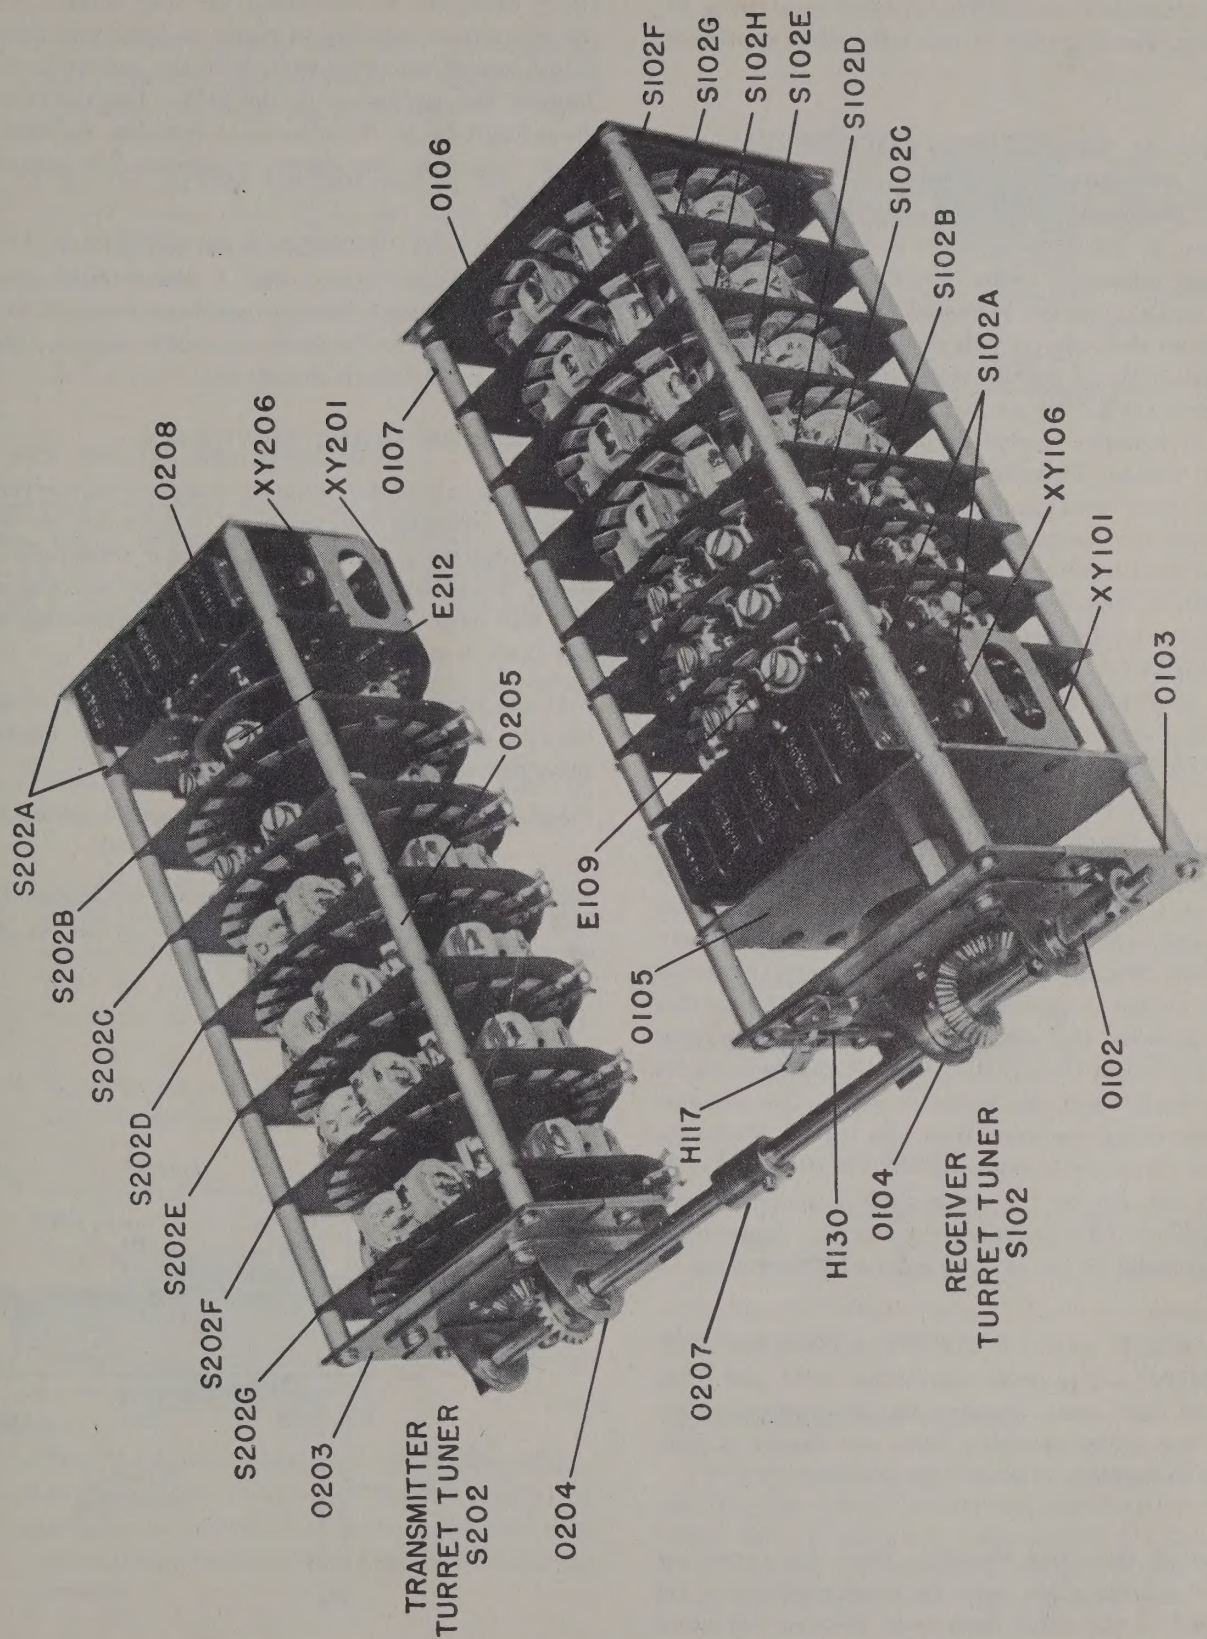

Figure 6-10. Receiver and Transmitter Turret Tuners
(See figures 6-10.)
d. TURRET TUNER WAFER SWITCH REPLACEMENT.—To replace a wafer switch, the turret tuner must be completely disconnected from the chassis per paragraph c above. Remove the three screws on each end of the tuner holding the three aluminum spacing rods (O107 or O205) and removable plate (O106). (See figure 6-10.) All wafer sections must be removed at the end away from the detent. Use care in pulling the wafer from the switch shaft. To place new wafer on switch, place on the shaft so that the tunable ele-
e. CRYSTAL SWITCH AND HOLDER REPLACEMENT.—Crystal switch and holder (S102A or S202A) may be replaced as a unit if the tuner is removed from the chassis, in the same manner as the wafer switch replacement discussed above. On the transmitter it is the first switch section removed. (See figure 6-10.) However, on the receiver it is the last section removed and entails quite a lot of work. If only the crystal holder socket (XY101 or XY106) is broken on the receiver, it is easier to replace just the socket and the associated wiring. This can be done without removing the turret tuner from the receiver chassis or the receiver chassis from the complete assembly. Remove the three screws on the detent end of the tuner, from the spacer rods (0107). Remove the two screws holding each crystal socket to the metal plate. Spread the spacer rods apart enough to allow the plate to slide forward. Enough room is available to change crystal sockets. Make a wiring diagram to facilitate hookup. Refer to the receiver wiring diagram apron, figure 6-24.
f. TUNER DETENT REPLACEMENT.—The detent (0103 or 0203) consists of the switch shaft, detent spring, balls, front plate, and gear. All of these parts are replaced as one unit except for the balls which may be replaced separately. Remove the turret assembly from the chassis as indicated in paragraph 21.c. of this section. Remove the three screws holding the front plate to the spacer rods (0107 or 0205). See figure 6-10. Pull the shaft from the wafer switches. Use extreme care in removing the shaft from the wafers. Exchange the turret tuner drive assembly (0104) or (0204). Be sure that the slot on the drive shaft is perpendicular to the chassis. (See paragraph g below.) Reassemble the turret tuner in the reverse order of disassembly.